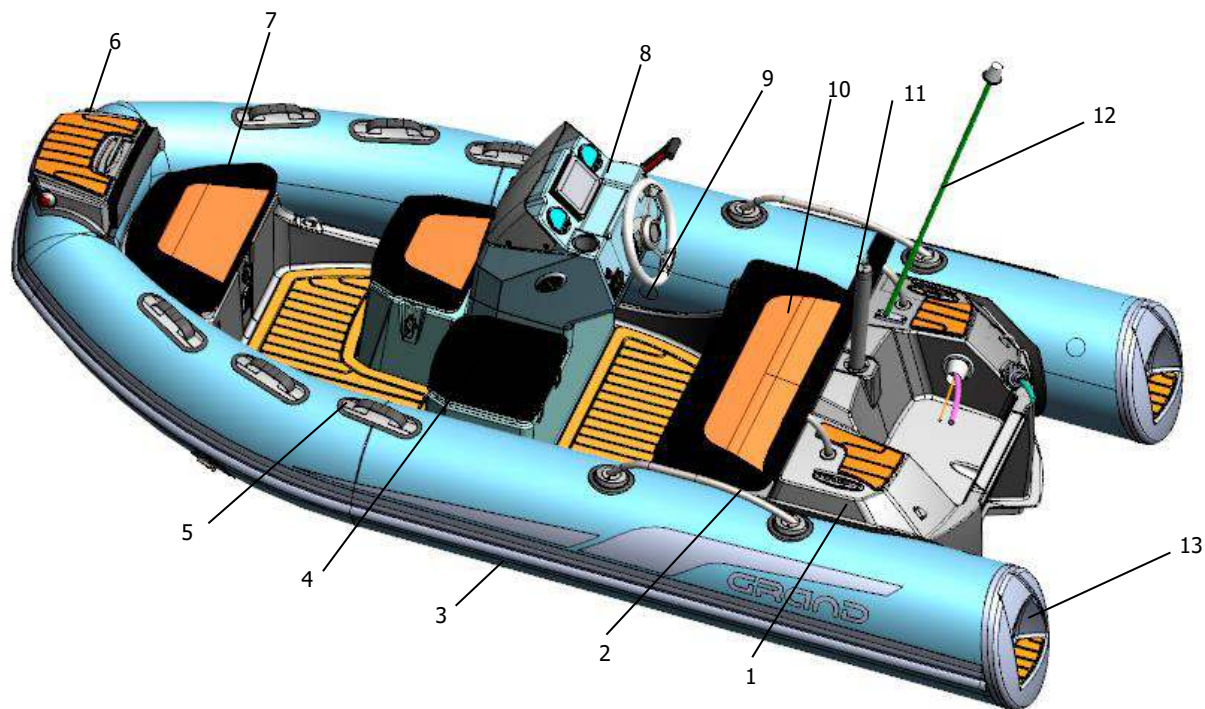

Fig. 45. General arrangement of a boat G380N.
**General arrangement of a boat** (see fig. 45 on the previous page):